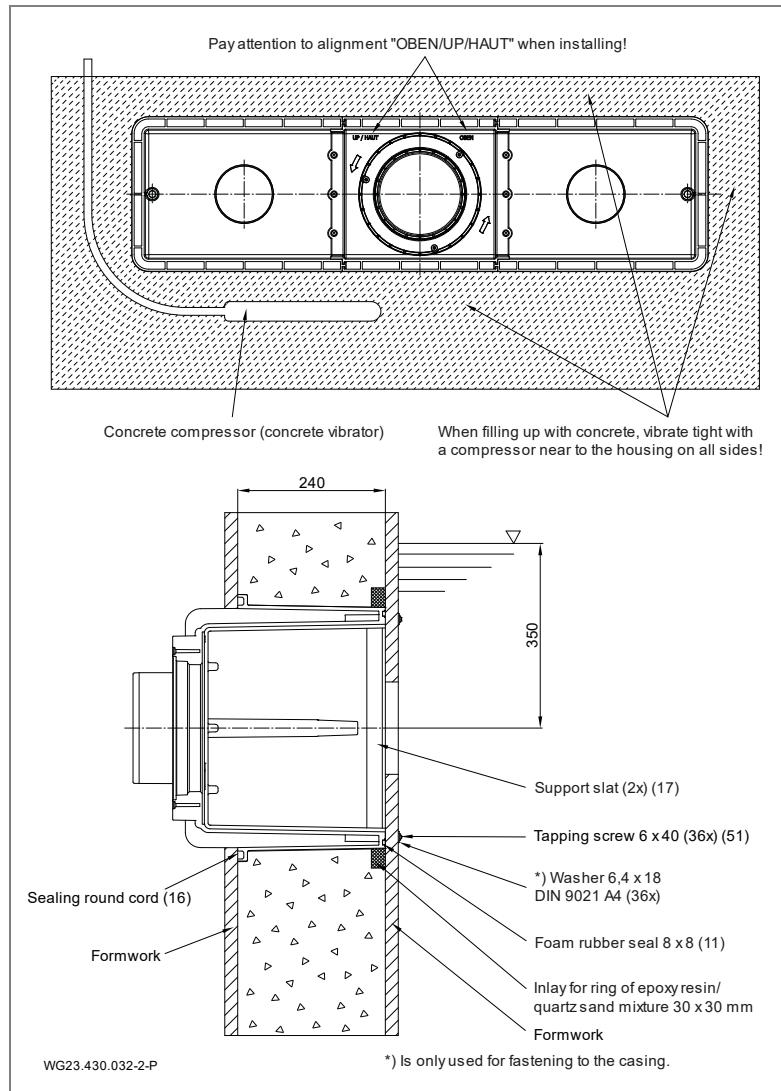

Fig. 5
It is recommended to lay a surrounding ring of epoxy resin/quartz sand at the pool-side outside wall of the housing (1) as a seal to the concrete wall. See "Fig. 5" on page 21
1. Installation depth: The centre of the installation housing (1) should be mounted 35 cm below the water level.
3. Clamp support slats (17) between the two overlaps of the inside of the housing.
4. Press in the foam rubber seal (11) without tension along the groove on the housing (1) by hand. Fix with a drop of instant glue on the floor side.
5. Place the sealing beading (16) in the groove.
6. Align the installation housing (1) according to the label "OBEN/UP/ HAUT" and fix to the casing with the tapping screws (51).